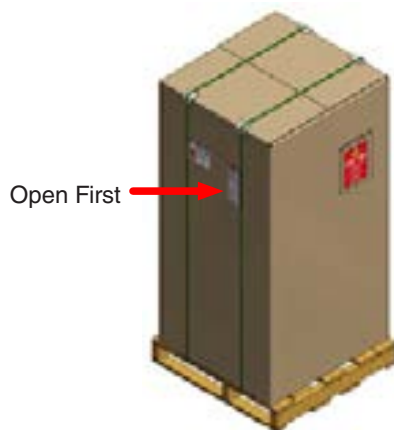

Figure 5.1a: This Crate has a Carton Banded to a Wooden Skid.
- Q-SUN Xe-3 Testers are shipped in one of two types of crates (Figure 5.1a and Figure 5.1b).